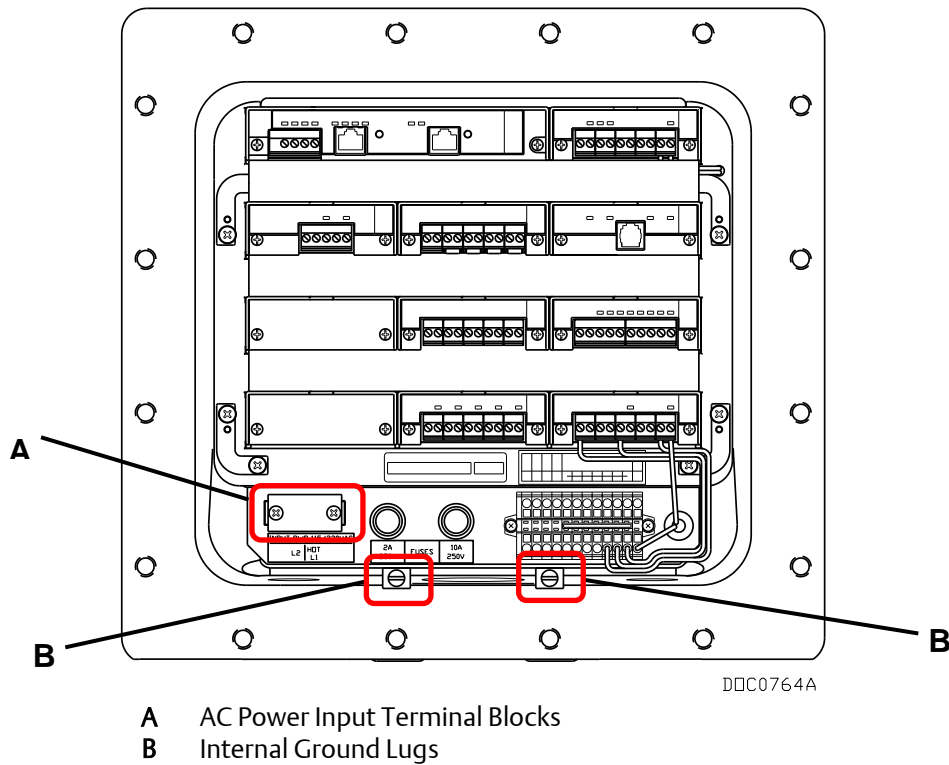

Figure 4. DL8000 Card Cage
The DL8000 has one external ground lug and two internal ground lugs. Refer to Figures 4 and 5 for lug locations.
1. Connect AC power to the terminal block as shown in *Figure 4*. The two terminals accept AC power (either 115 or 230 volts AC). Number 6 spade terminals are recommended for wiring connections to this terminal block. For 115 volt AC input, connect the line wire to HOT (L1) and the neutral wire to L2. For 230 volt AC input, connect one of the line wires to HOT (L1) and the other to L2. Keep AC wiring away from DC signal circuits to minimize noise.